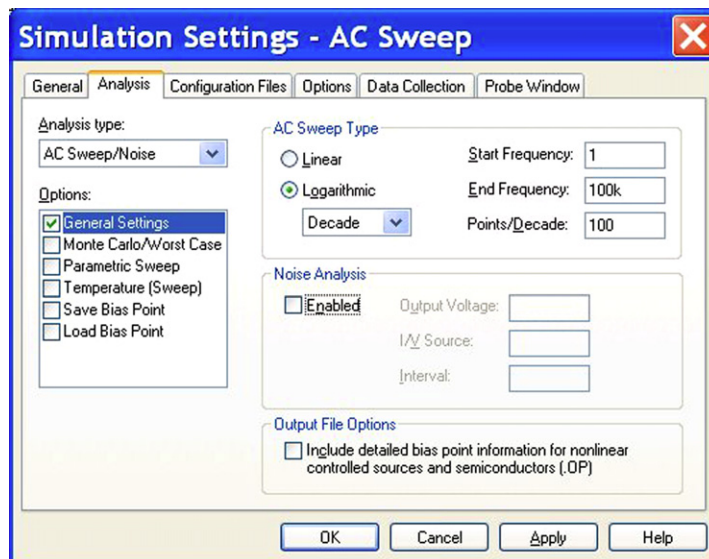

FIGURE 4.7
2. Create a PSpice simulation profile to perform a logarithmic sweep from 1 Hz to 100 kHz in steps of 100 points per decade (Figure 4.7).